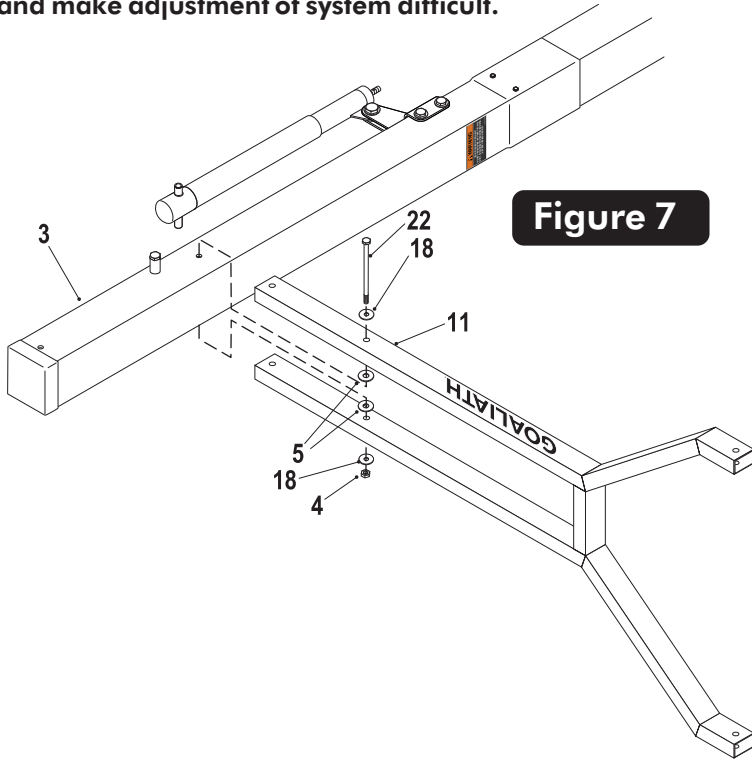

Figure 7
9. Attach lower arms (#11) to Top Pole (#3), as shown in **Figure 7**, using a hex bolt (#22), two flat washers (#18), two plastic washers (#5) and lock nut (#4).
Note: make sure lettering is right side up. (See Side View). DO NOT tighten bolt (#22) at this time. (See Figure 7.)